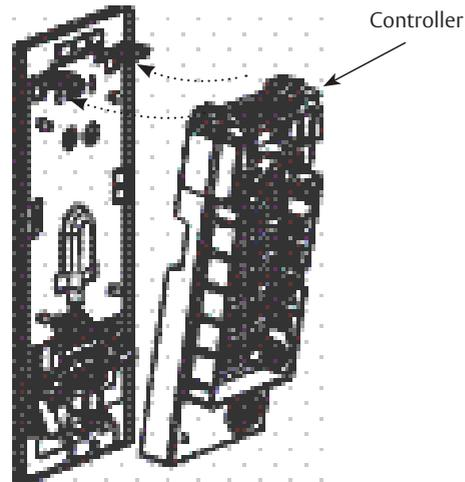

Fig. 10A
- a. Insert bottom tab of controller - (ensure path is clear) into slot on mounting plate. (Figure 10A)